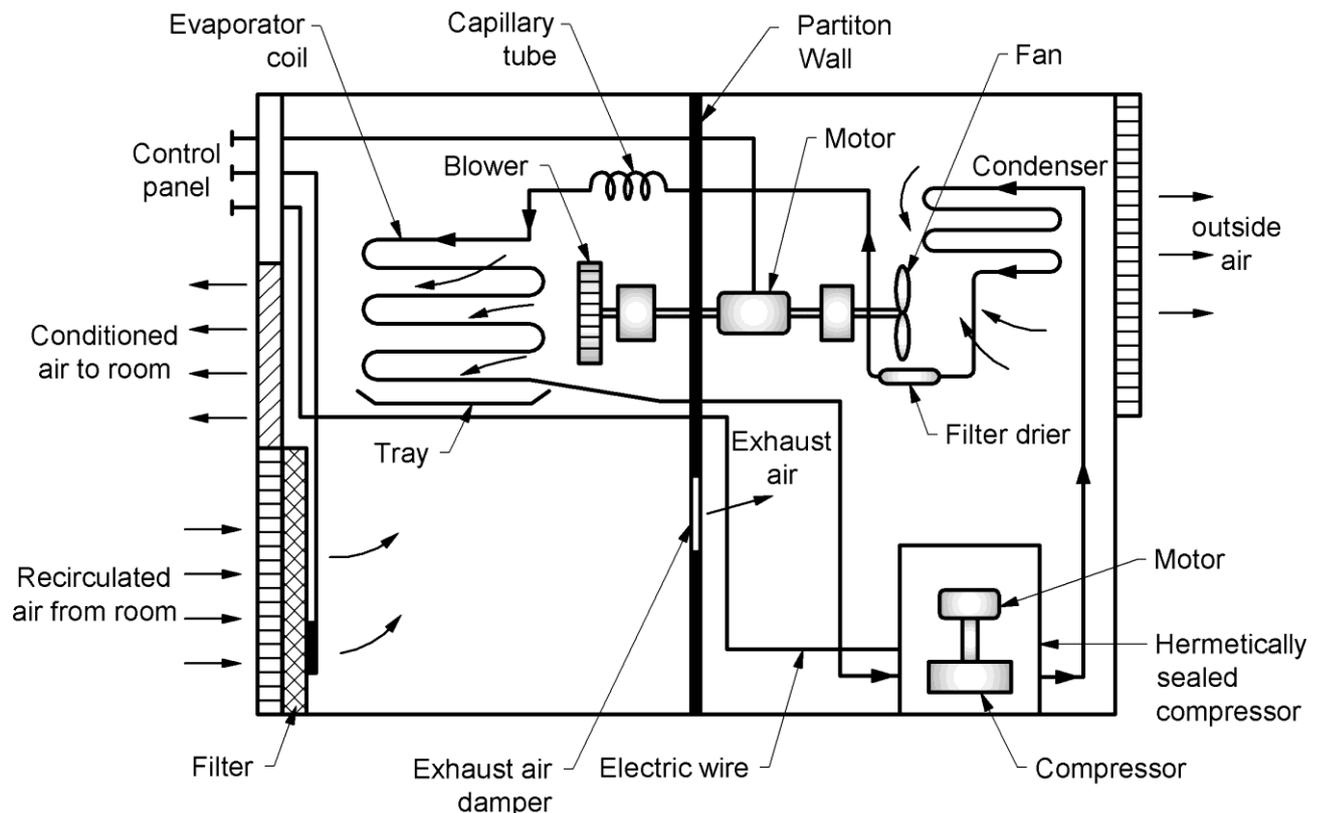

Fig. 3.1. Layout of window air conditioner.
- Other components are air filter, control panel, double shaft motor that drives a fan on condenser side and blower on the evaporator side as shown in Fig. 3.1.